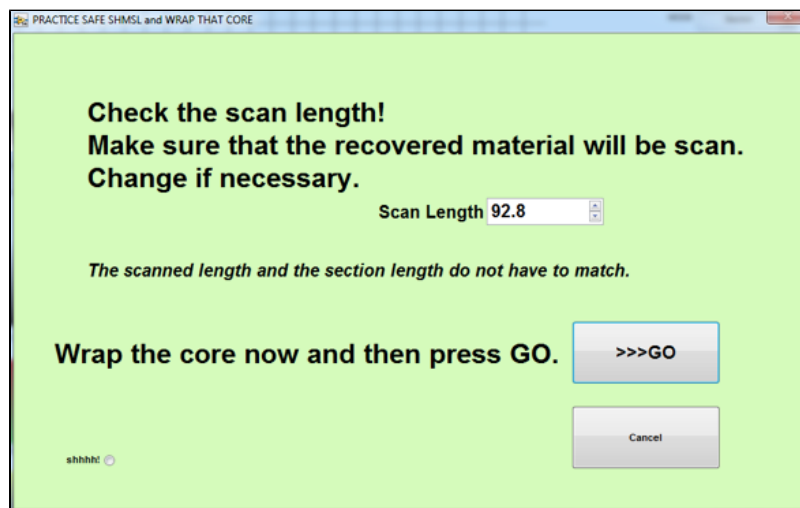

Figure 5. Final Sample Preparation
10. After the surface profile is completed, the measured section length is displayed. Confirm length (Figure 5, below). Adjust if needed. Apply Glad Wrap to the surface of sediment cores. **Click GO!!!**